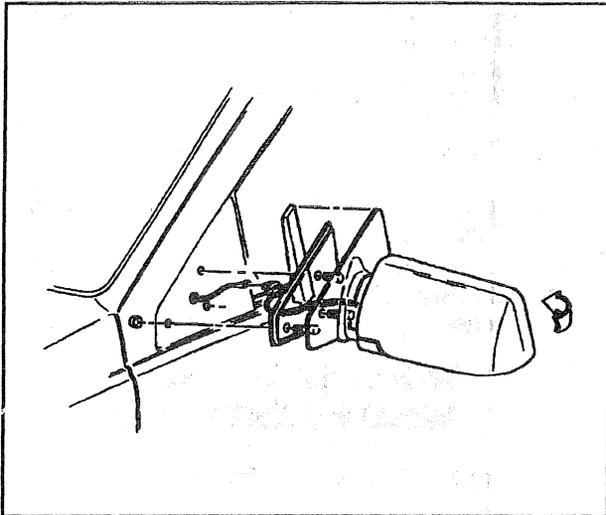

Figure 32—Typical Outside Rearview Mirror
**↔ Remove or Disconnect (Figure 32)**
### →← Install or Connect (Figure 32)